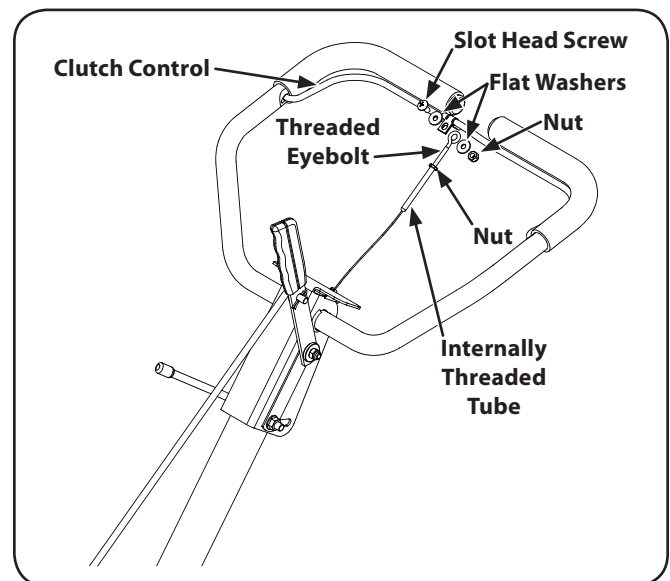

Figure 3-4
4. Remove the slot head screw, nut, and two flat washers from the clutch bail. See Fig. 3-4.
6. Thread the eyebolt and nut removed earlier into the internally threaded tube at the end of the cable. Thread engagement should be about $\frac{3}{4}$ ". Tighten the nut against the tube at end of cable. See Fig. 3-4.